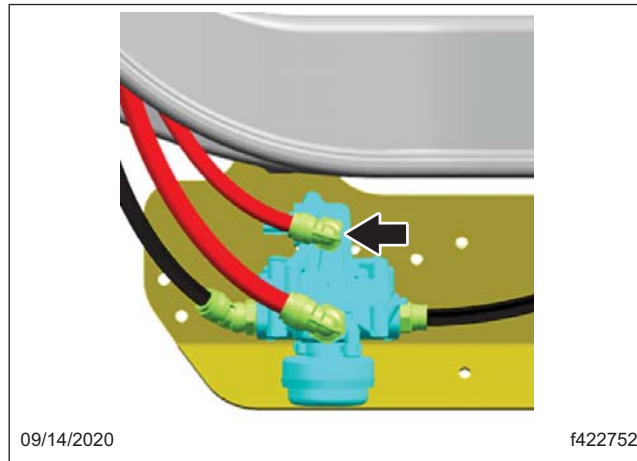

Fig. 8, Removing Fitting 23-14396-013
11. Remove fitting 23-14396-013 from the front brake valve control port and replace it with fitting 23-14396-006. See **Fig. 8**.